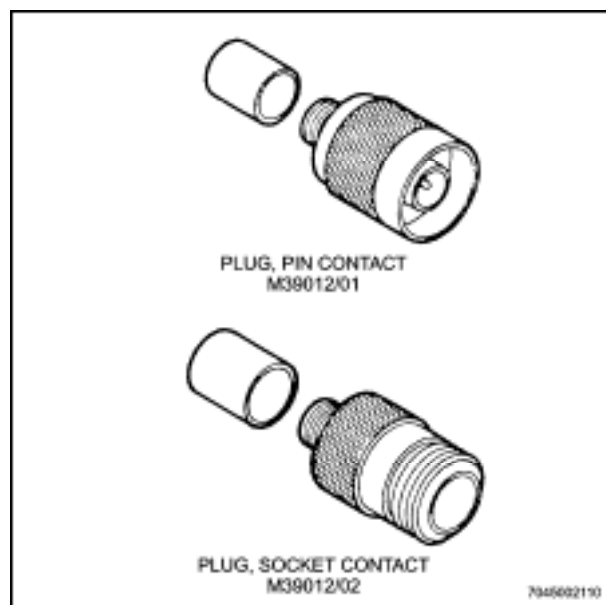

Figure 12-4 Typical N Connectors
- c. **N Series.** A general purpose, threaded coupling connector used with medium size coaxial cables. (See Figure 12-4.)